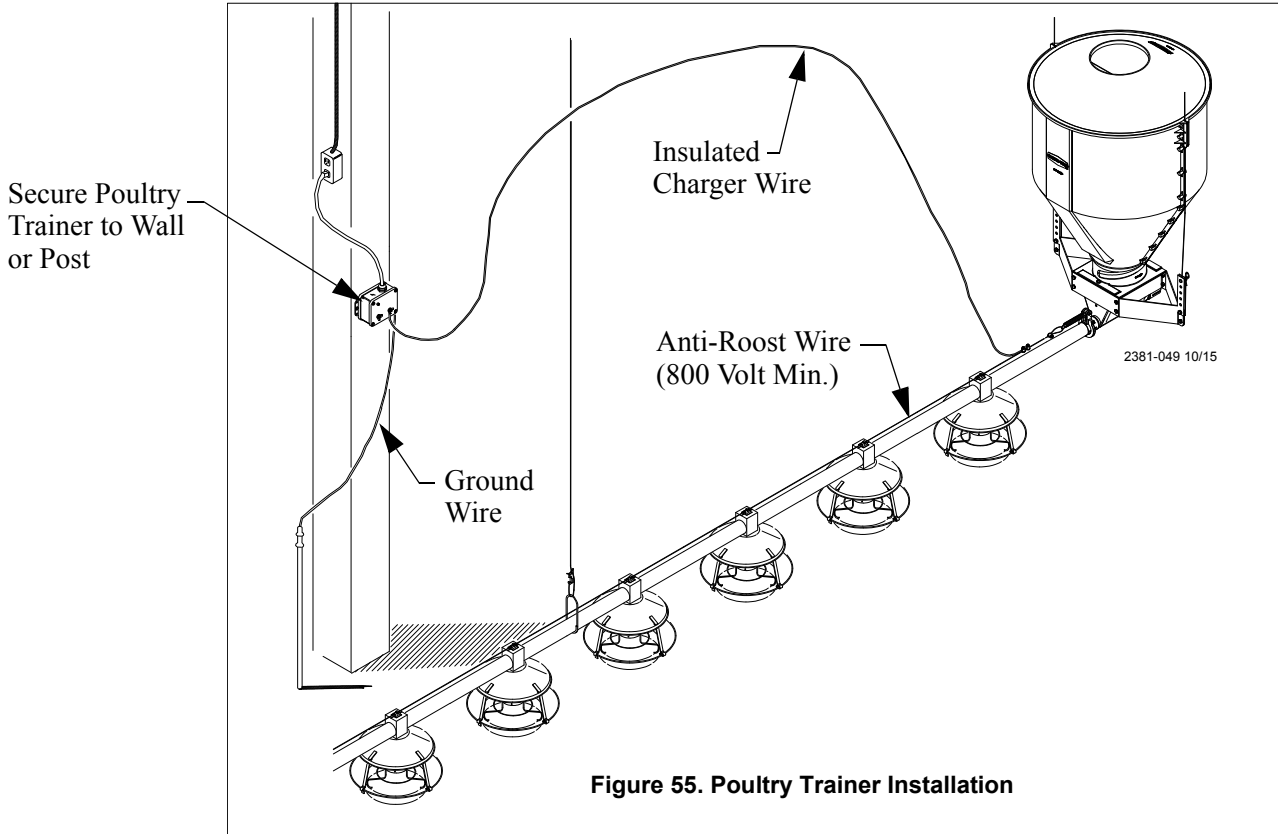

Figure 55. Poultry Trainer Installation
2. Install the poultry trainer or line charger, as shown in **Figure 55** or **Figure 56**.